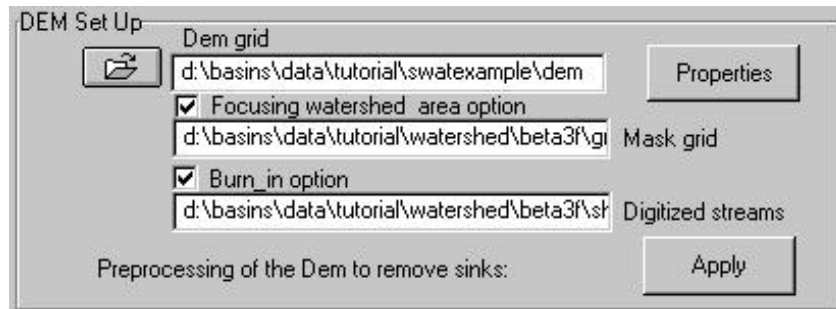

Figure 5.2
1. The DEM Setup section is shown in Figure 5.2.